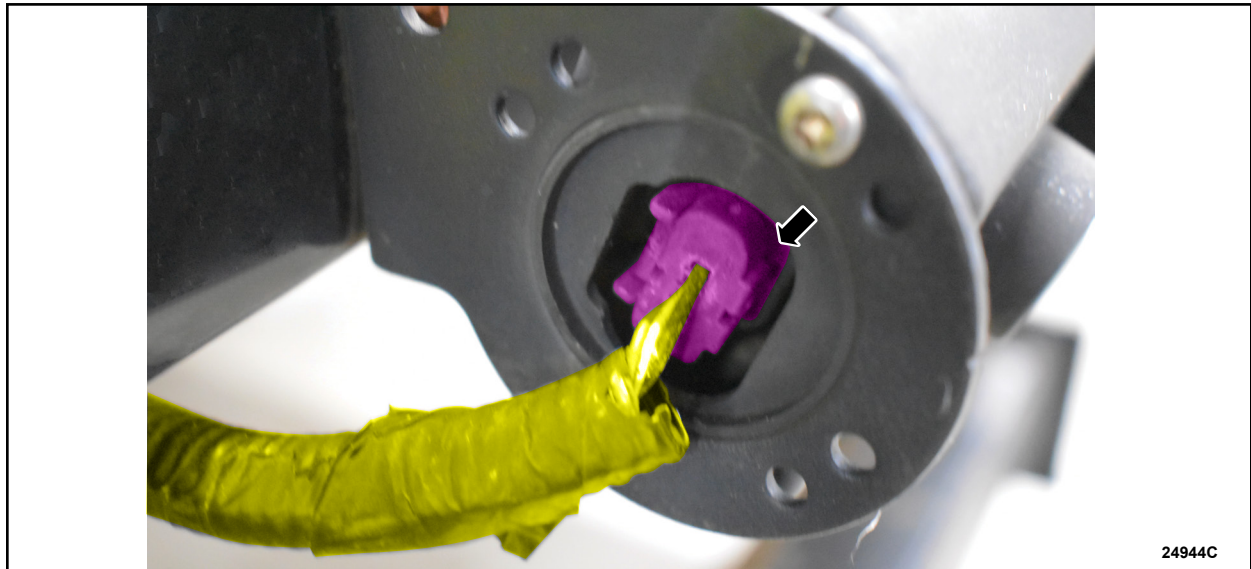

FIGURE 6
2. Disconnect the electrical connector and position the wire harness aside. See Figure 6.